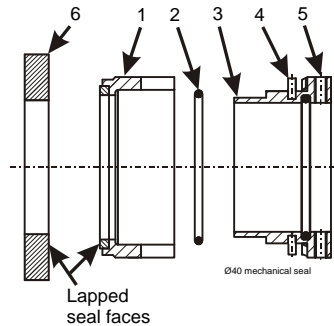
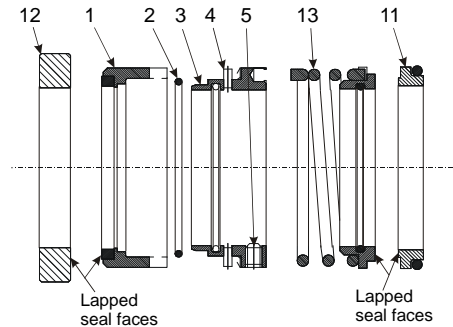

Figure 24 Type 1 single mechanical seal
Figure 25 Type 2 two part double mechanical seal
The rear wear plate holds the seal seat retained by a circlip (item 6 in Figure 24). Once the wear plate has been removed the remainder of the mechanical seal is left exposed on the shaft.
Removal of the wear plate exposes the outer seal seat carrier retained by four off cap head socket screws. Removing the screws and carrier exposes the remainder of the mechanical seal on the shaft. The inside face of the seal carrier holds the outer seal seat (item 12 in Figure 25 or Figure 26, item 1 in Figure 27) retained by a clamping ring held in place by screws.
(Figure 24) HL80/ HL100M/ HL125MS/ HL150M/ HL150MHD
(Figure 25) HL130M/ HL160M/ HL250M
Inspect all items for wear. The seal face for type 1, 2 & 3 seals (item 6 in Figure 24; item 12 in Figure 25 or Figure 26) is double sided. It may be reversed when refitted to provide a second wearing face. Replace any damaged parts and renew all O-rings.
(Figure 24) NC80/ NC100/ NC150